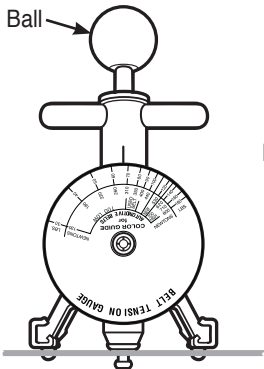

Figure 1
1. Fully depress the ball so the hook engages the belt. See Figure 1.